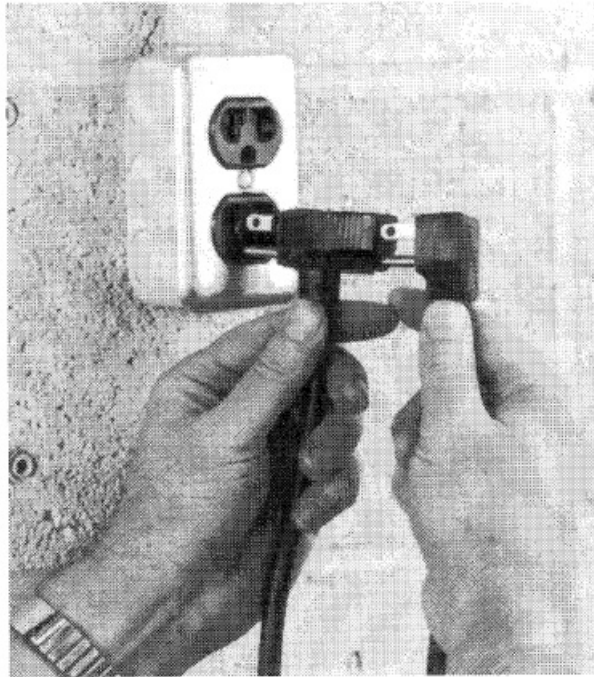

FIG. 6
3. Plug pump cord plug into back of switch plug. See Fig 6.